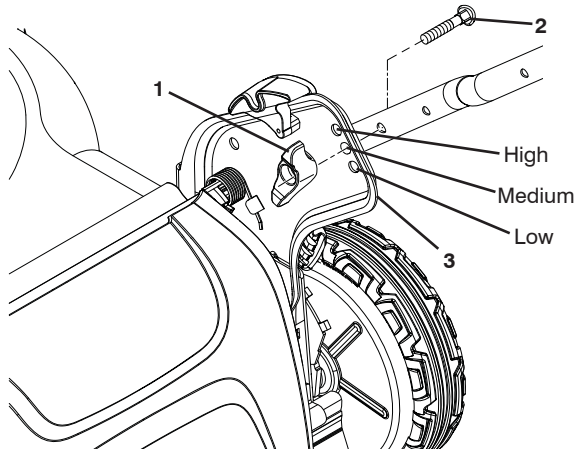

Figure 25
1. Remove knob and carriage bolt on one side of the lower handle (Figure 25).